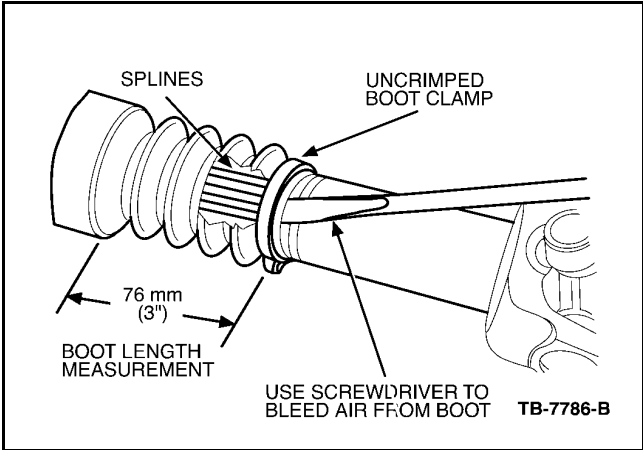

Figure 2 - Article 04-23-7
- c. Set the boot length to 3" (76 mm) by sliding the slip yoke. Measure between the inner side of the clamps as shown in (Figure 2).
- d. Bleed the air from the slip yoke boot using a screwdriver as shown in (Figure 2).